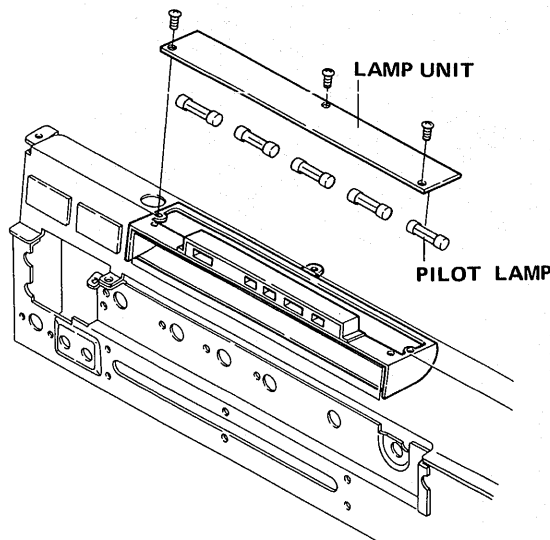

Fig. 14
2. Unscrew 3 screws, as shown in Fig. 14, to remove the lamp unit, then replace with a new one.